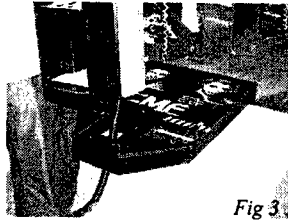
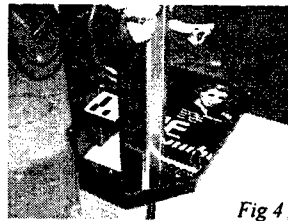

Fig 3.
Fig 4.
6. Offer the Coin Tower up onto the Floor (Fig 3) ensuring that the Flexipipe continues through the access hole (Fig 4).